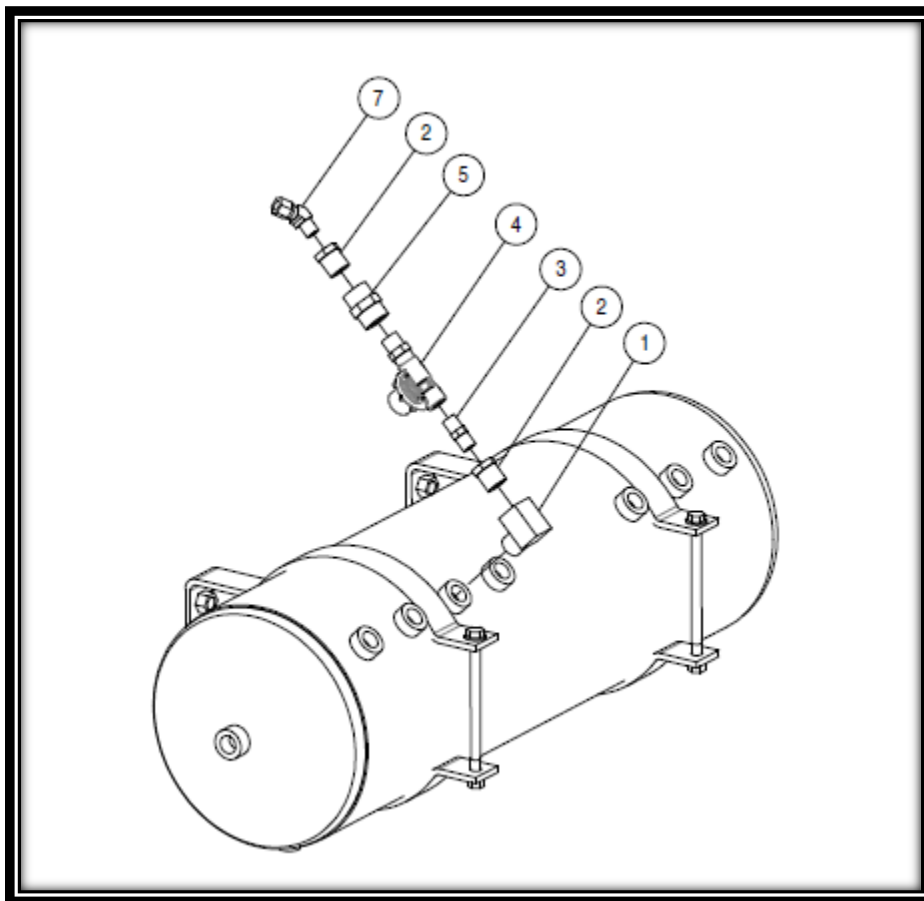

FIG. 4-1
7. Install pressure protection valve with check valve, 2674-MM5-003 (Item 4) into air tank port using 0716-MM5-H02 (Item 3), 0716-MM5-J05 (Item 2) and 0716-MM5-P04 (Item 1). Refer to Fig 4-1.
8. Install fitting (Item 7) on to pressure protection valve with check valve using 0716-MM5-MM04 (Item 5), 0716-MM5-J05 (Item 2). Refer to Fig 4.1.